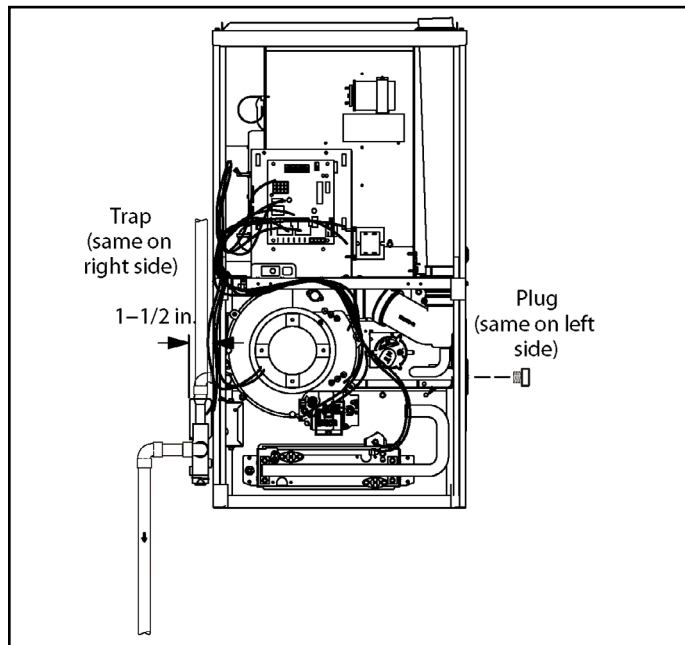

Figure 46. Condensate Trap and Plug Locations
This unit is designed for either right or left side exit of condensate piping in downflow applications. Refer to Figure 46 for condensate trap locations.
2. Use a large flat head screw driver or a 1/2" drive socket extension and remove plug (Figure 46) from the cold end header box at the appropriate location on the side of the unit. Install provided 3/4 NPT street elbow fitting into cold end header box. Use Teflon tape or appropriate pipe dope.